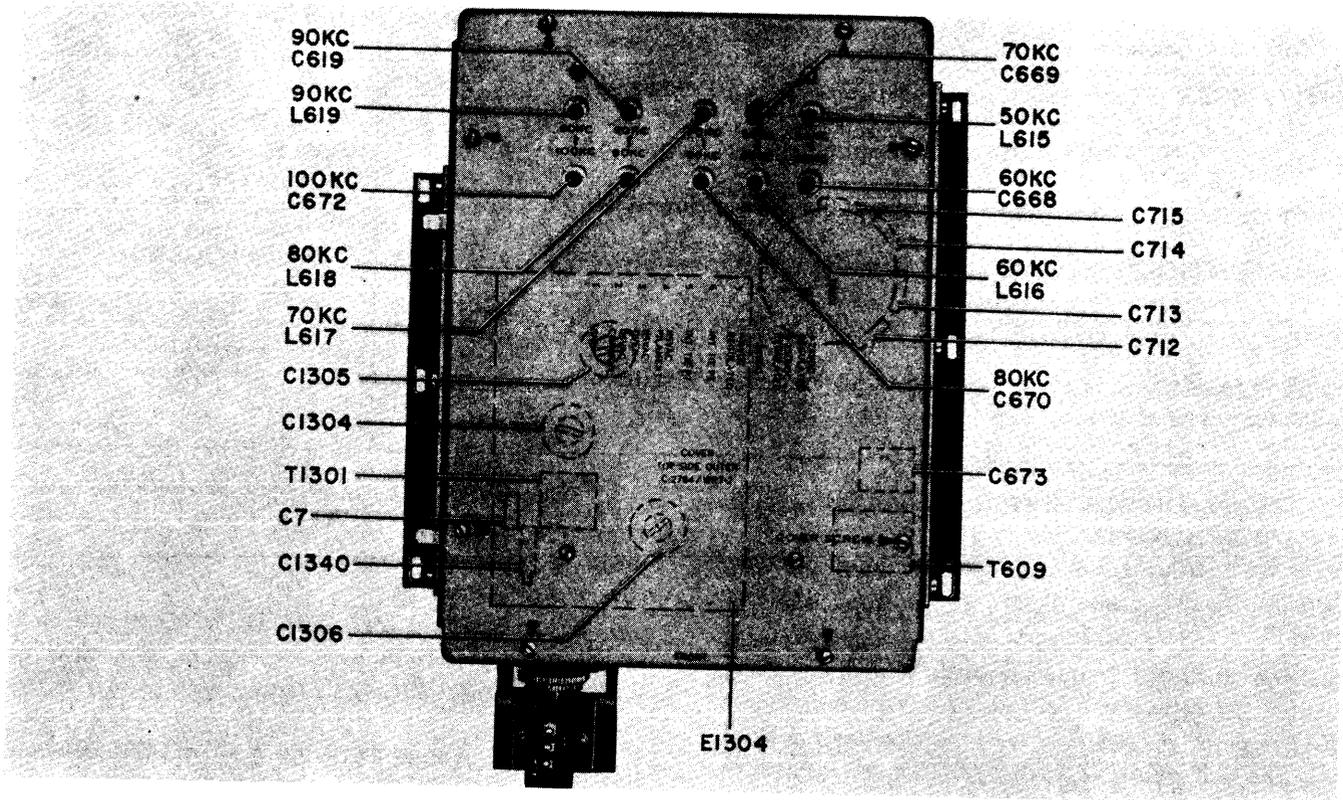

Figure 6-8. Electrical Frequency Control C-2764/WRT-2 Oven Top View, Electrical Adjustments
trical Frequency Control C-2764/WRT-2 refer to figures 6-8, 6-9 and 6-10 to locate the respective adjustments.
Step 7. Rotate TUNING B control to 79.990 kc without changing the setting of TUNING A control. Set the frequency on Frequency Meter AN/USM-29 until the meter on the front panel reads zero. If the frequency is not exactly 79.990 kc, refer to figure 6-8 and adjust 80-kc capacitor C670 until the same error is obtained in the opposite direction. (For example, if the frequency registered first by AN/USM-29 was 80.150 kc, adjust C670 until AN/USM-29 indicates 79.830).
Step 12. Using a procedure similar to that used in steps 7 through 11, refer to figure 6-8 and adjust the coils and capacitors as indicated in the following table:
(5) ONE MEGACYCLE OSCILLATOR ADJUSTMENTS.—For sets serials 1 to 294, the adjustments to be made in the one megacycle oscillator require the removal of the oven covers. After removing both the outer and inner covers of the oven proceed in the following manner:
Step 1. Refer to figure 6-8 and locate assembly board E1304. Note that the symbols of all the components are clearly marked on the board next to each component.